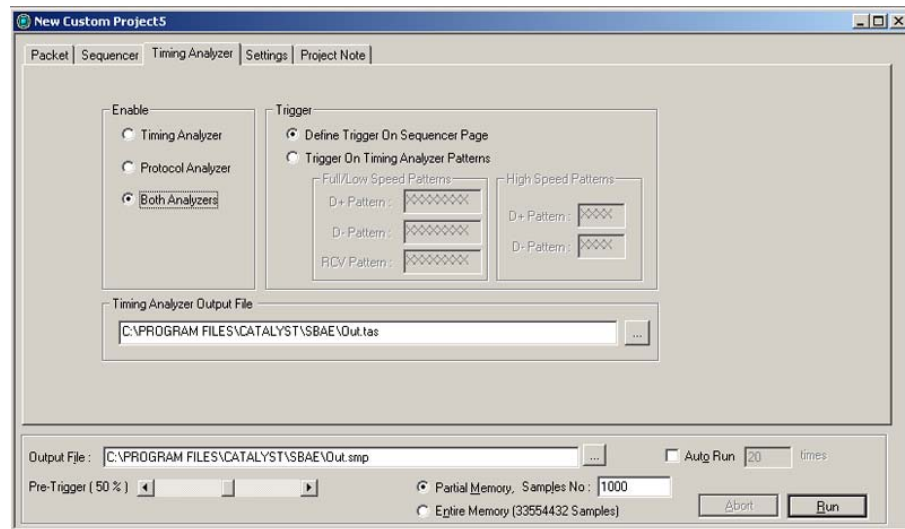

Figure 96 Advanced Mode Timing Analysis Dialog
2. Click the **Timing Analyzer** tab and check either the **Timing Analyzer** or **Both Analyzers** button in the Enable area, as shown in Figure 96.